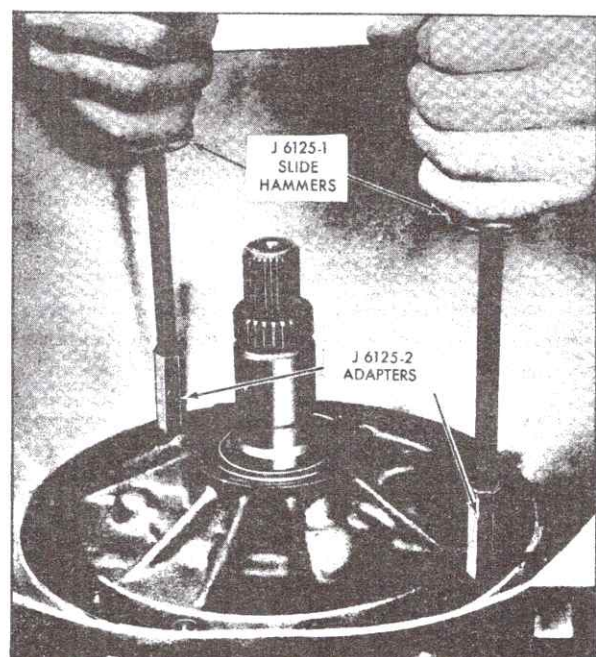

Fig. 7-39 Removing Pump Assembly
3. Install Slide Hammer Bolt, J-6125-1, and Adapter, J-6125-2, into other threaded hole at 10 o'clock or 5 o'clock position in pump body and drive outward with slide hammers to remove pump assembly from transmission case, Fig. 7-39.